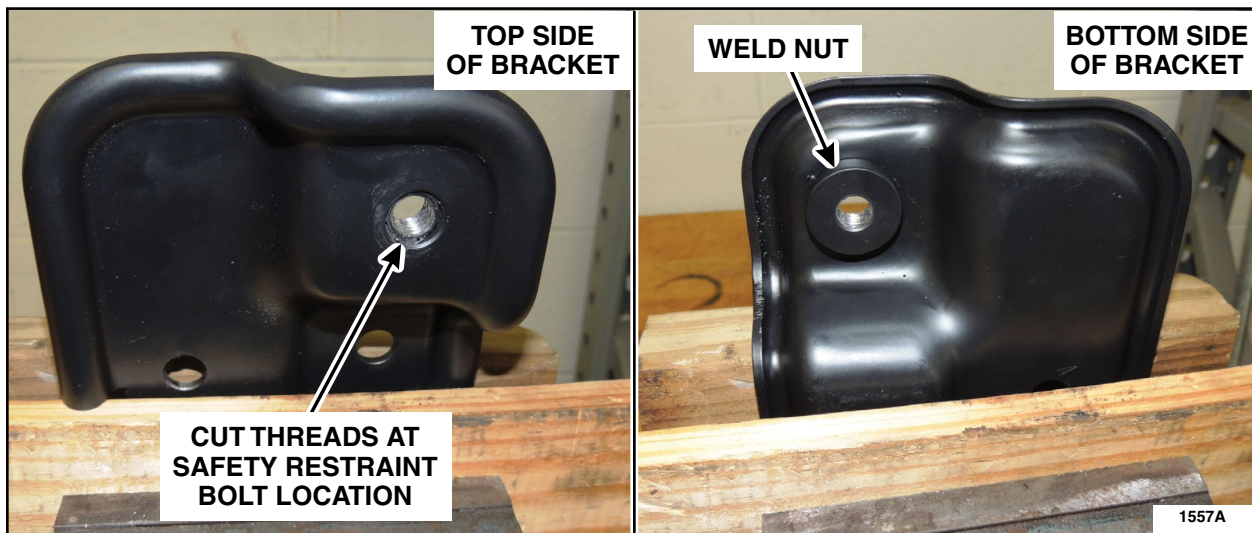

FIGURE 3
2. Use the *new* restraint bolts and an impact wrench to cut threads into the weld nut from the top side of each bracket. Use a bench vice to carefully secure the brackets during the thread cutting process. See Figure 3.